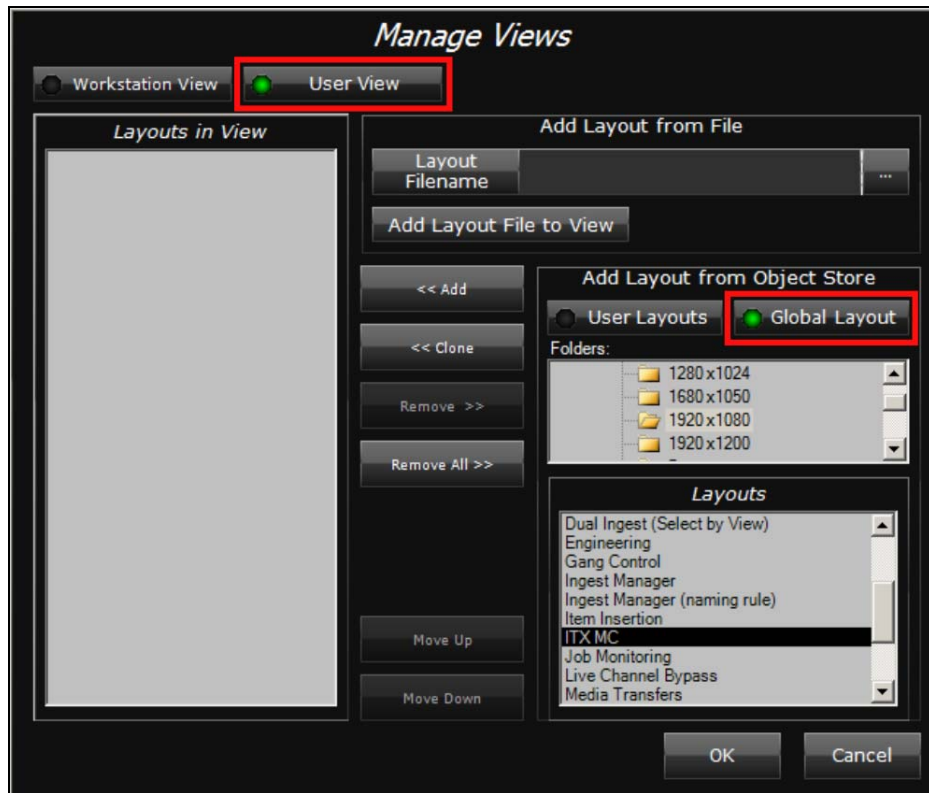

Fig. 2-1: Manage Views pop-up layout in the iTX Desktop.
- 5 Select the **User View** tab at the top of the **Manage Views** window. Then select the **Global Layout** tab from the **Add Layout from Object Store** section. See Figure 2-1 on page 12.